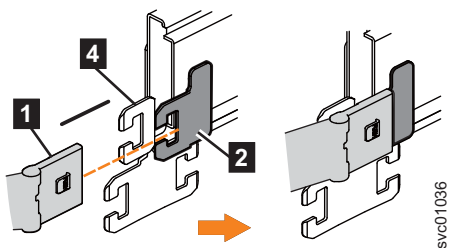

Figure 54. Install the inner connector of the upper CMA to the inner member of the support rail
2. Install the inner connector of the upper CMA assembly (**1**) to the inner member of the left support rail (**2**), as shown in Figure 54 from the outer and inner support rails.